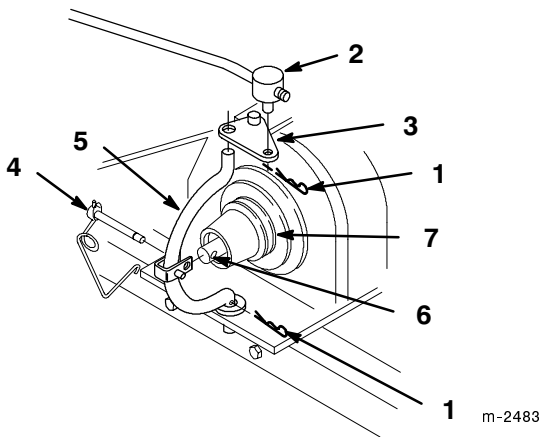

Figure 14
3. Remove hairpin cotter and trunnion from PTO engagement plate (Fig. 14).
4. Unlatch and remove clevis pin that secures yoke to clutch shaft and pivot yoke out and forward to remove clutch shaft from (Fig. 14).
5. Install belt in PTO pulley groove (Fig. 14).
6. Assemble yoke to clutch shaft and engagement plate. Attach clevis pin, trunnion and hairpin cotter to secure (Fig. 14).